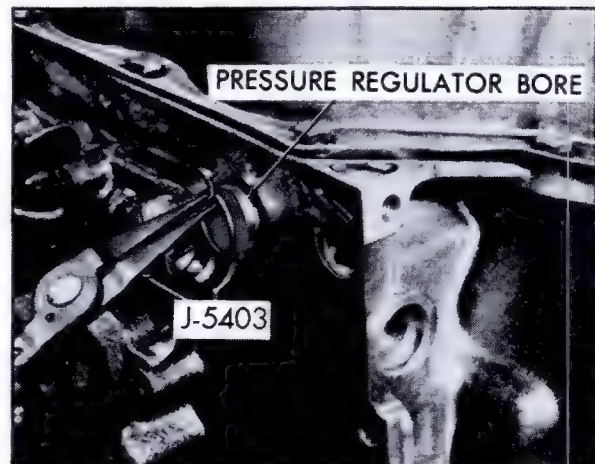

Fig. 7-156 Removing Pressure Regulator Valve
1. Compress regulator boost valve bushing against pressure regulator spring and remove snap ring using Snap Ring Pliers, J-5403 (#21), Fig. 7-156.